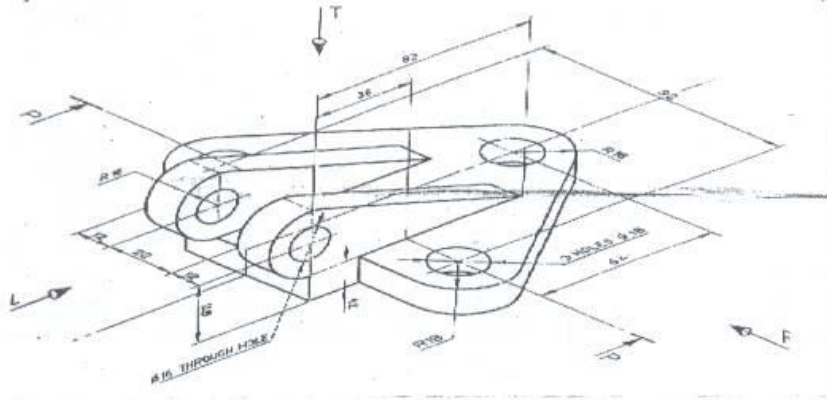

Fig.2(a)
- 2 a. The pictorial view of a machine part is shown in fig.2(a). Draw the following views of the part to 1:1 size: i) Front view ii) Left view in section along PP viewing in the direction L iii) Top view. (20 Marks)